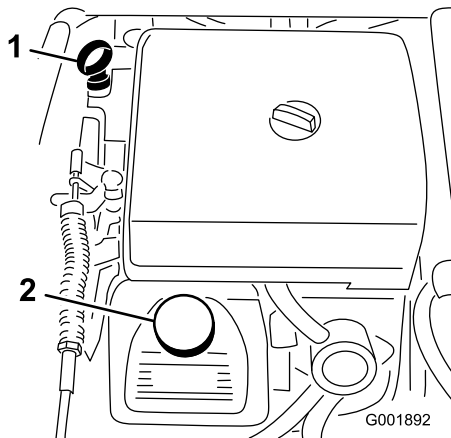

Figure 20
2. Remove the dipstick and wipe it with a clean rag (Figure 20). Insert the dipstick into the tube and make sure it is seated fully. Remove the dipstick and check the oil level.
3. If the oil level is low, remove the filler cap from the valve cover (Figure 20) and pour oil into the opening until the oil level is up to the Full mark on the dipstick; refer to Servicing Engine Oil, the Engine Maintenance section, for the proper oil type and viscosity. Add the oil slowly and check the level often during this process. Do not overfill.